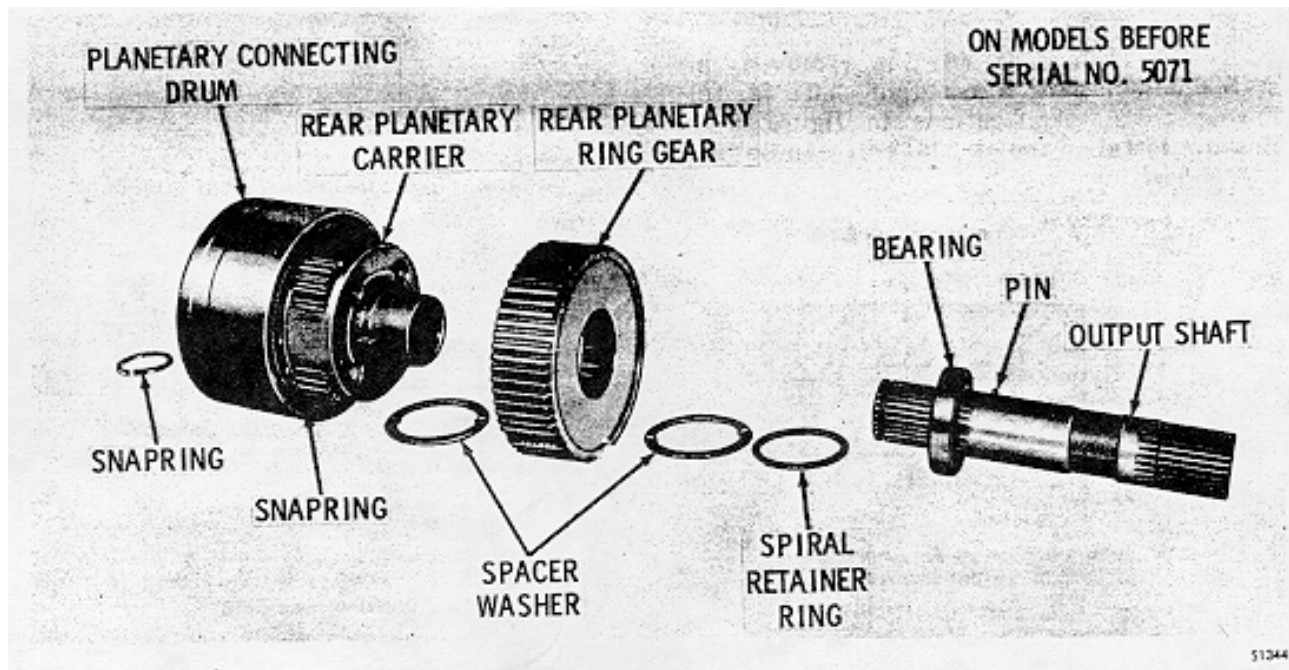

Fig. 6-59. Rear planetary (prior to S/N 5071)
(3) Hold selector lever 34 (B, foldout 9) so the selector valve pin is facing the inside of the case. Slide selector shaft 39 through the opening in case 11 (B, foldout 8), oil seal 37 (B, foldout 9), and the slot in selector lever 34. Attach locknut 33 and retainer pin 32 (fig. 6-59). Tighten the locknut to 15-20 lb ft (20-27 N-m).
(4) Replace breather 7 (B, foldout 8) if there is any evidence of damage. It is pressed into the housing.
(5) If governor support pin 12 was removed at disassembly, install a new pin